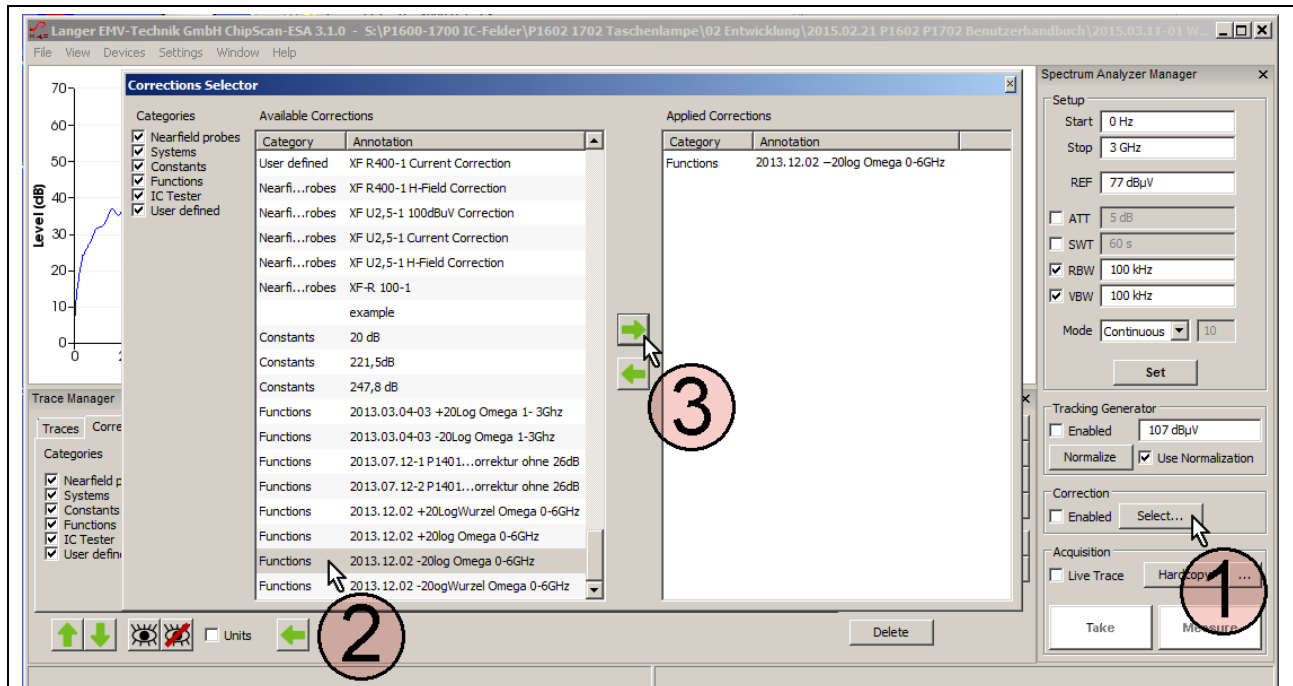
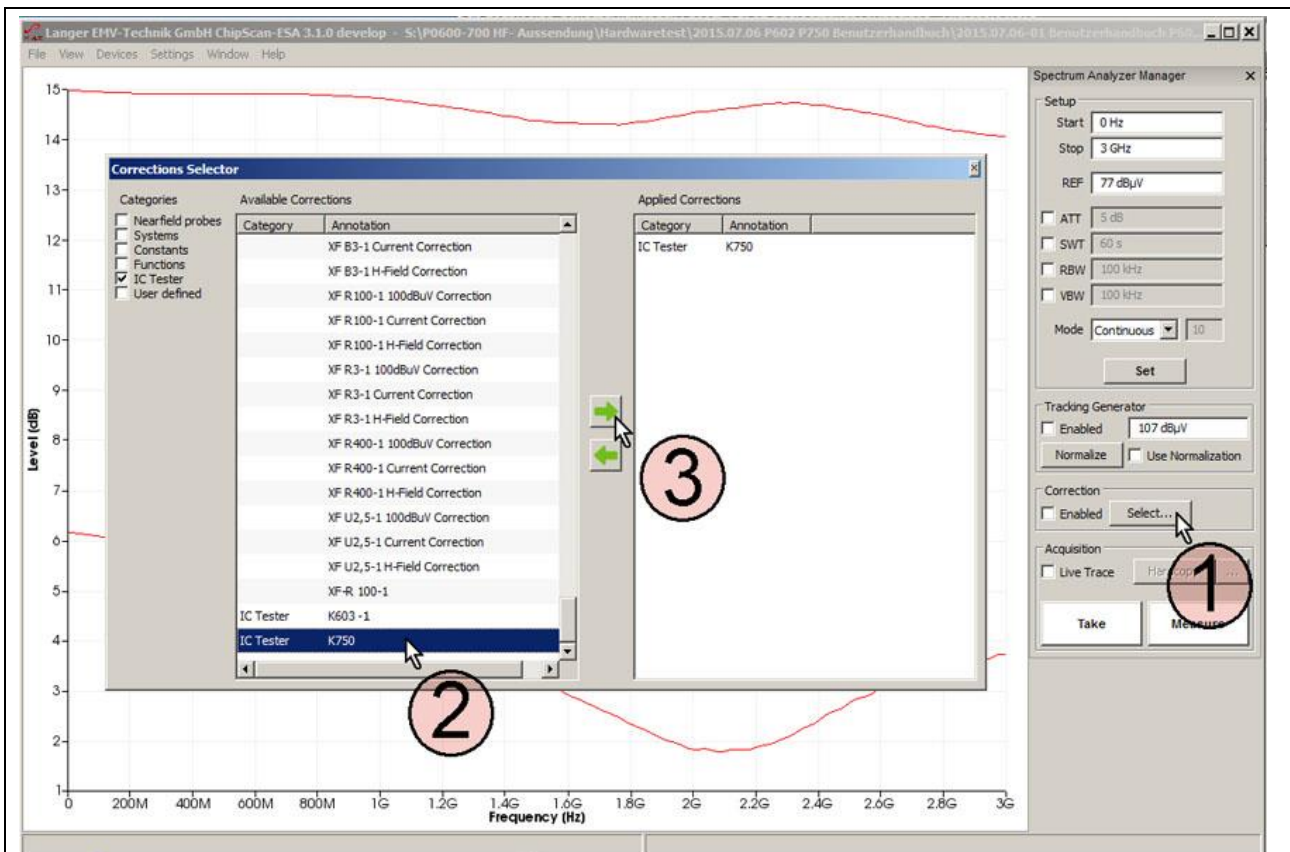

Figure 24 Using mathematical functions by activation in the "Corrections Selector".
Figure 25 Loading the correction curves K750 to the "Corrections Selector".
Mathematical functions can also be used (**Figure 24**): division by ω in the time domain, for example. This corresponds to a subtraction of $20 \text{ Log } \omega$ in the logarithmic form.
Click the "Select" button (mouse cursor ① **Figure 24**) under "Correction" in the "Spectrum Analyzer Manager" to select the respective correction curve.
The "Corrections Selector" window opens **Figure 24**. Click and activate the correction curve $-20 \text{ Log } \omega$ with the mouse cursor ②. Click the "Arrow right" ③ button to move the correction curve to the "Applied Corrections" list. Other correction factors and correction curves (**Figure 25**) such as K603-1 or K750 can be loaded in the same way or selectively (**Figure 25**).